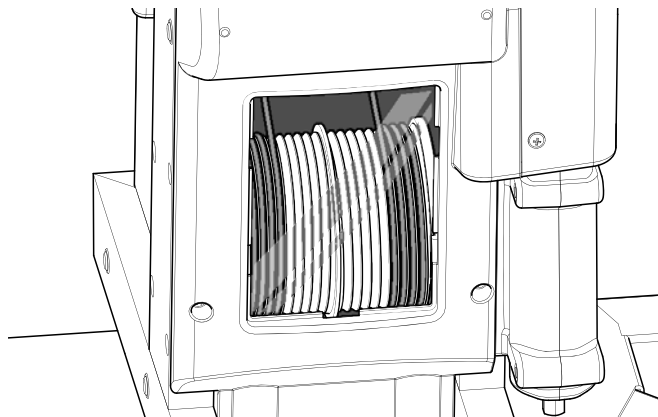

Figure 6-3. Drum view through inspection window
2. Check the rope is correctly on drum (Figure 6-3.).
5. Re-check proper rope alignment (Figure 6-3. and Figure 6-4.). Both ropes must be tight. If ropes are not tight, contact an Authorized JLG Service Center.
7. Perform all pre-operation checks before further use. Also, remove platform and re-check rope alignment per Figure 6-3. and Figure 6-4. after first elevation - which should be no higher than 1m (3 ft). Ensure both ropes are tight and remain so at all times.